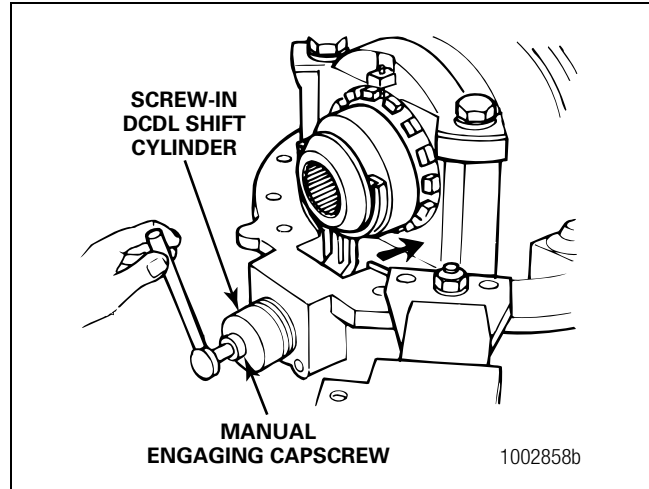

Figure 6.23
10. Engage the splines of the collar with the splines of the differential case. Insert the manual engaging capscrew through the top of the shift cylinder to move the shift collar toward the differential case. Rotate the collar as necessary to align the splines. Figure 6.23.